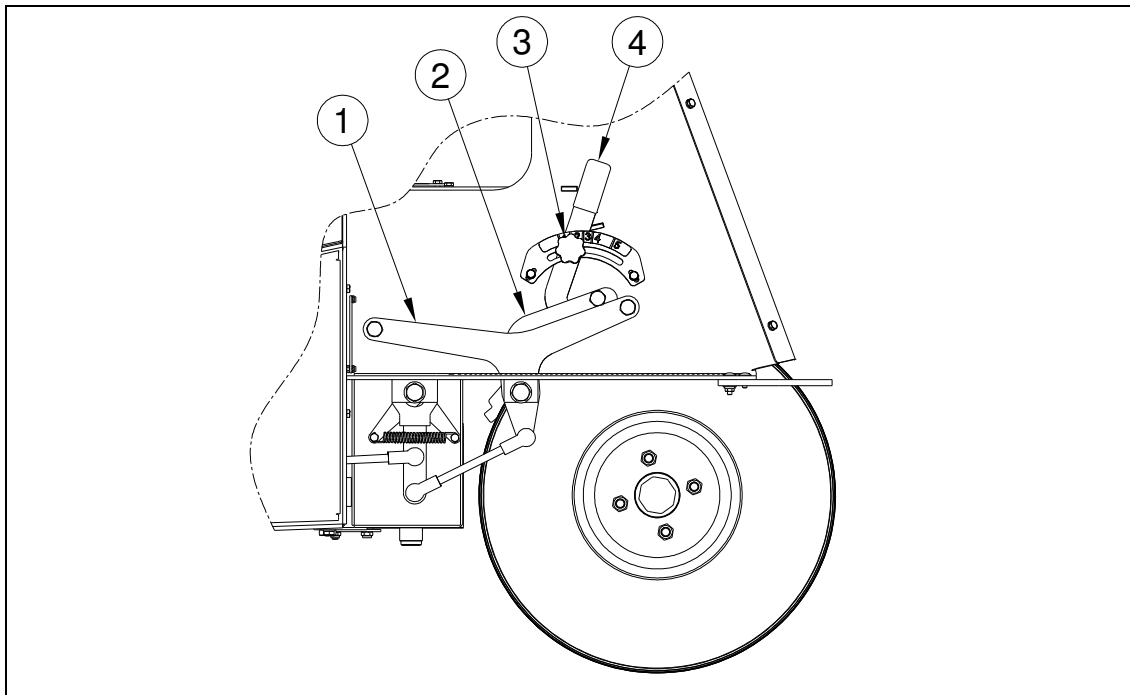

Fig. 17
The Verti-Drain® has two pedals that can be found on the right side of the machine (see fig. 17). This design consists of a main speed pedal (1) and a Tine distance speed pedal (2). The main speed pedal (1) is used to take the Verti-Drain® from and to the place where the work is to be performed. Never, therefore, use this pedal when working with the machine. The Tine distance speed pedal (2) is used for performing the work. This pedal can be adjusted so that different hole distances can be achieved. To adjust this pedal, you must first unscrew the knob (3) and, next, the pedal must be turned to the required position using the adjustment handle (4). Next, the knob (3) must be re-tightened.